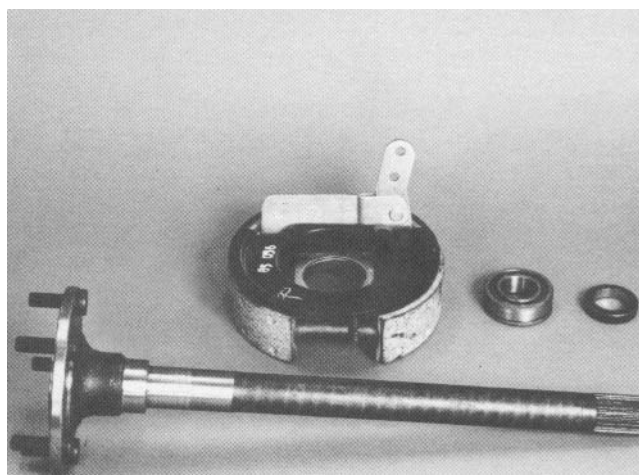

Figure 21
10. Inspect all components for wear and damage (Fig. 21). Replace the hub and shaft if the seal has grooved the axle surface more than 1/64 inch (0.4 mm).